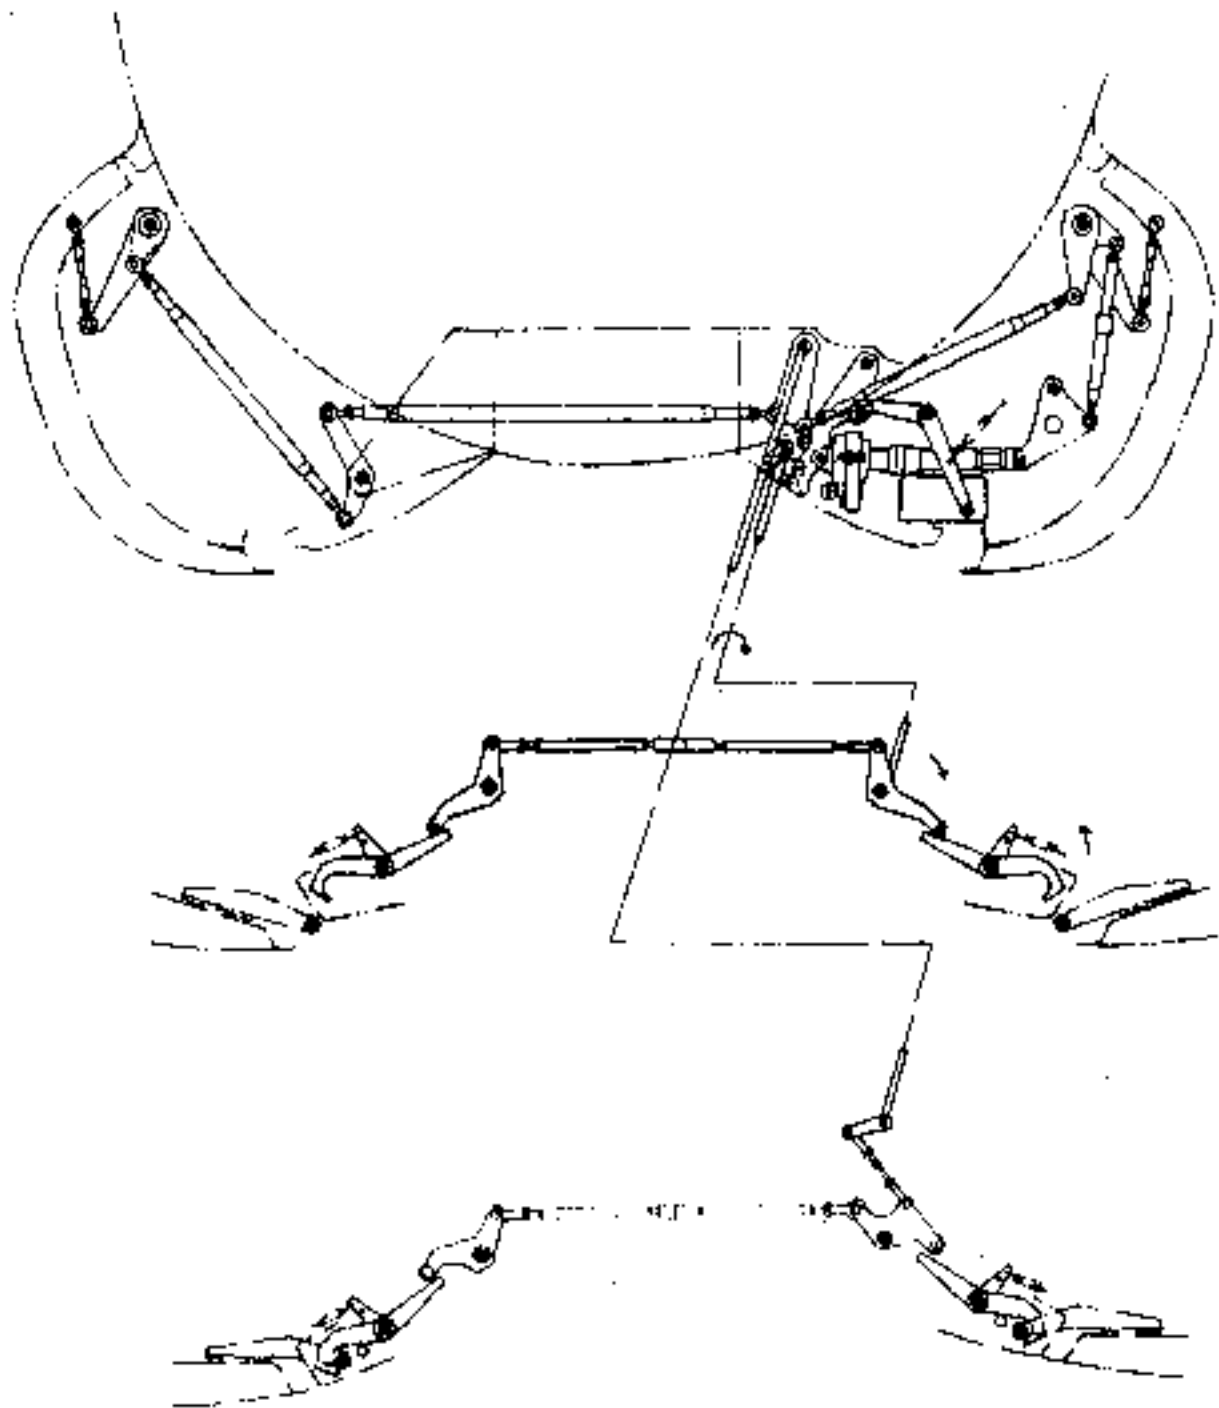

Fig. 4-30 Main landing gear forward door lock released condition
- (2) Door opening (See Figs 4-30 and 4-31).